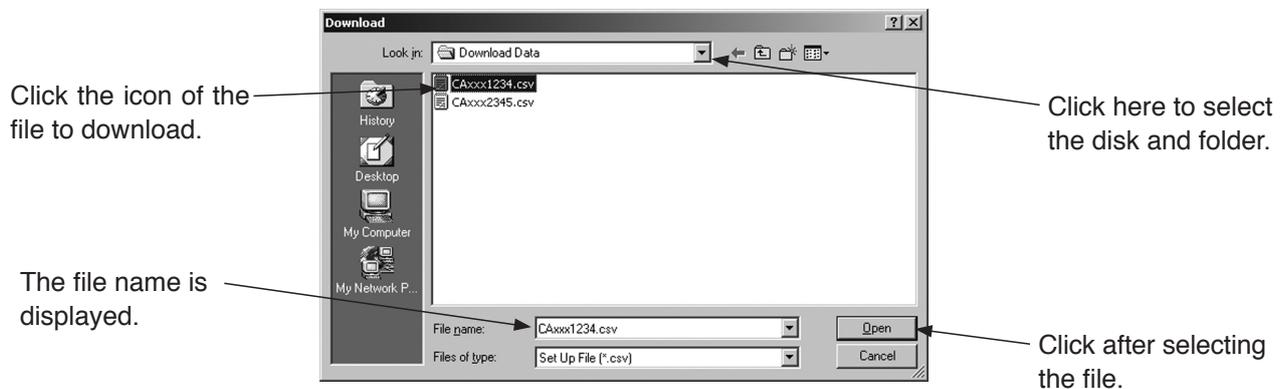

Fig.164
- ① To download, verify the parameters in the current flowmeter to ensure that it is the right flowmeter. To save parameters, follow the instructions in section 3.10.1.2 "Saving files".
- ② After verifying the flowmeter, load the data to be downloaded.
- ③ Click the "File (F)" menu and select "Download (D)" from the "Database (F)" drop-down list.
- ④ The standard dialog will be displayed (Fig. 164). Select the disk and folder where the file to be downloaded is stored from the drop-down list.
- ⑤ Select the file to download by clicking it. Verify the "File Name (N)" and click the "Open (O)" button. To exit without downloading the file, click the "Cancel" button.